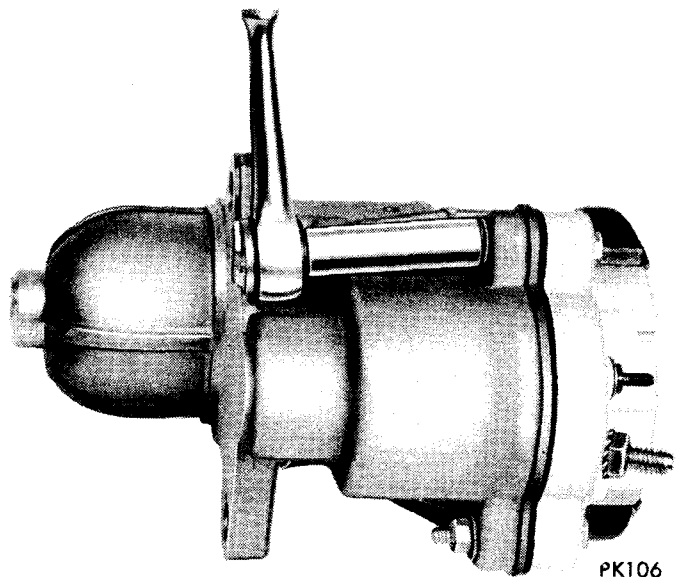

Fig. 7—Removing Solenoid and Brush Plate Assembly Attaching Nuts
(8) Remove nuts attaching solenoid and brush holder plate assembly to gear housing, (Fig. 7).